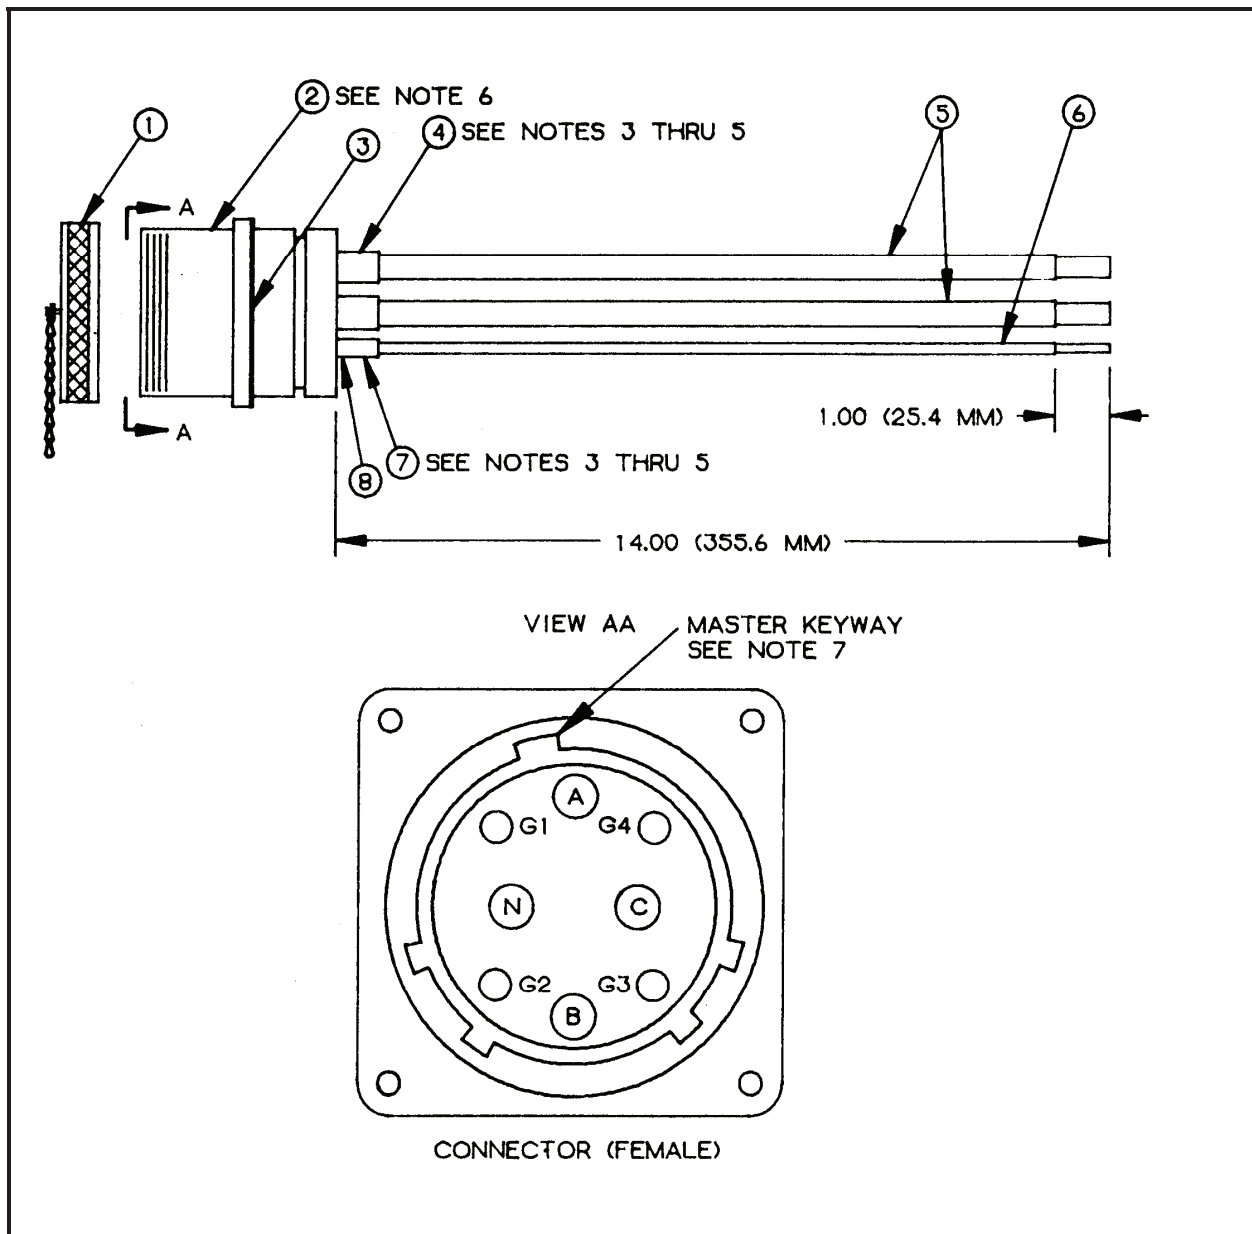

Figure F-7. Feeder Center Output Connector Assemblies, M200/100, 100-Amp
Component Legend for Figure F-7
- c. Electrical connector (Figure F-7, Item 2) is furnished with the following: